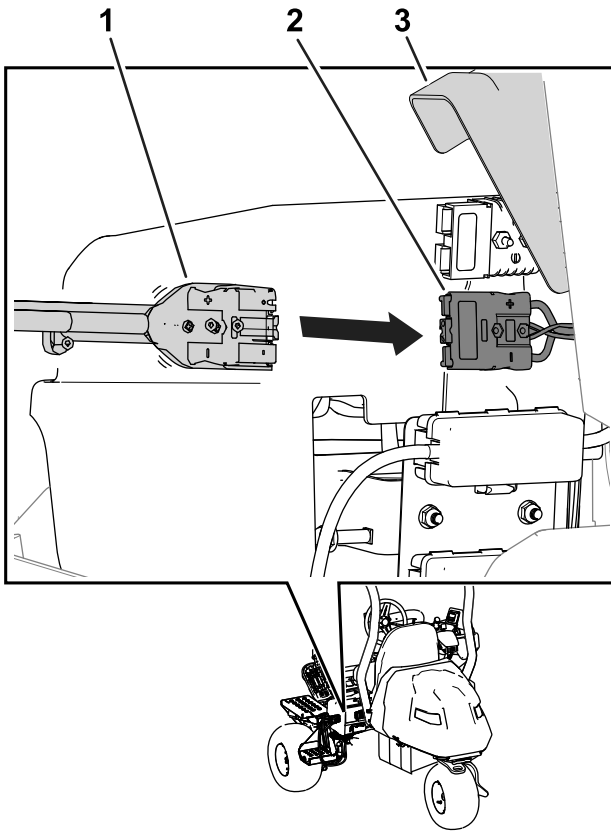

Figure 36
7. Raise the connector cover and slide the charger-output connector into the charger connector on the machine (Figure 36).